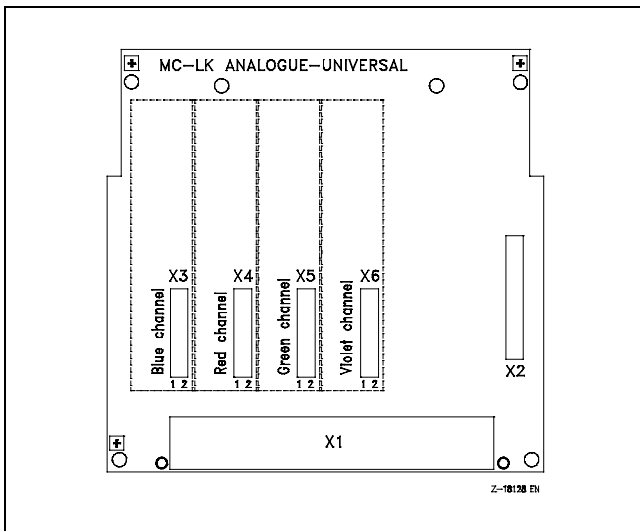

Fig. 16 Arrangement of the plug-in jumpers
6. Arrange the plug-in jumpers on the component side of the channel card according to channels. Fig. 16 shows the position of the plug-in jumpers assigned to the channels (X3... X6).